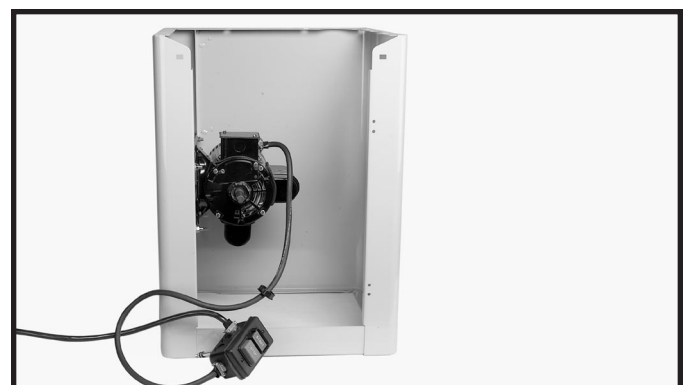

Fig. 9
4. Place cabinet on its base as shown in Fig. 9.